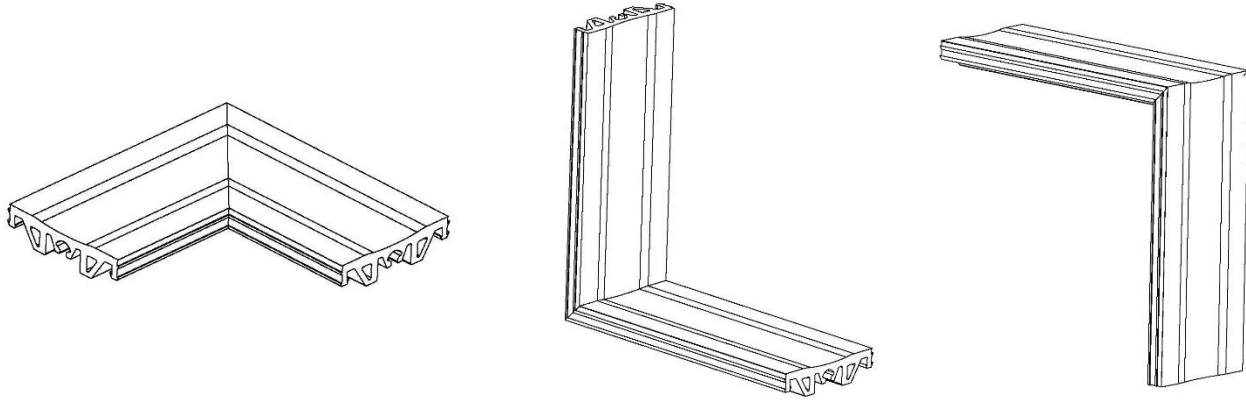

Figure 4
3. Check the splices after the adhesive has cured and reapply adhesive as necessary. Allow 15 minutes prior to installing seal. It typically takes 24 hours for adhesive to fully cure and achieve proper working strength. Ensure that the splice of the seal is not within 2” of a joint in the aluminum extrusion. **See Figure 4**